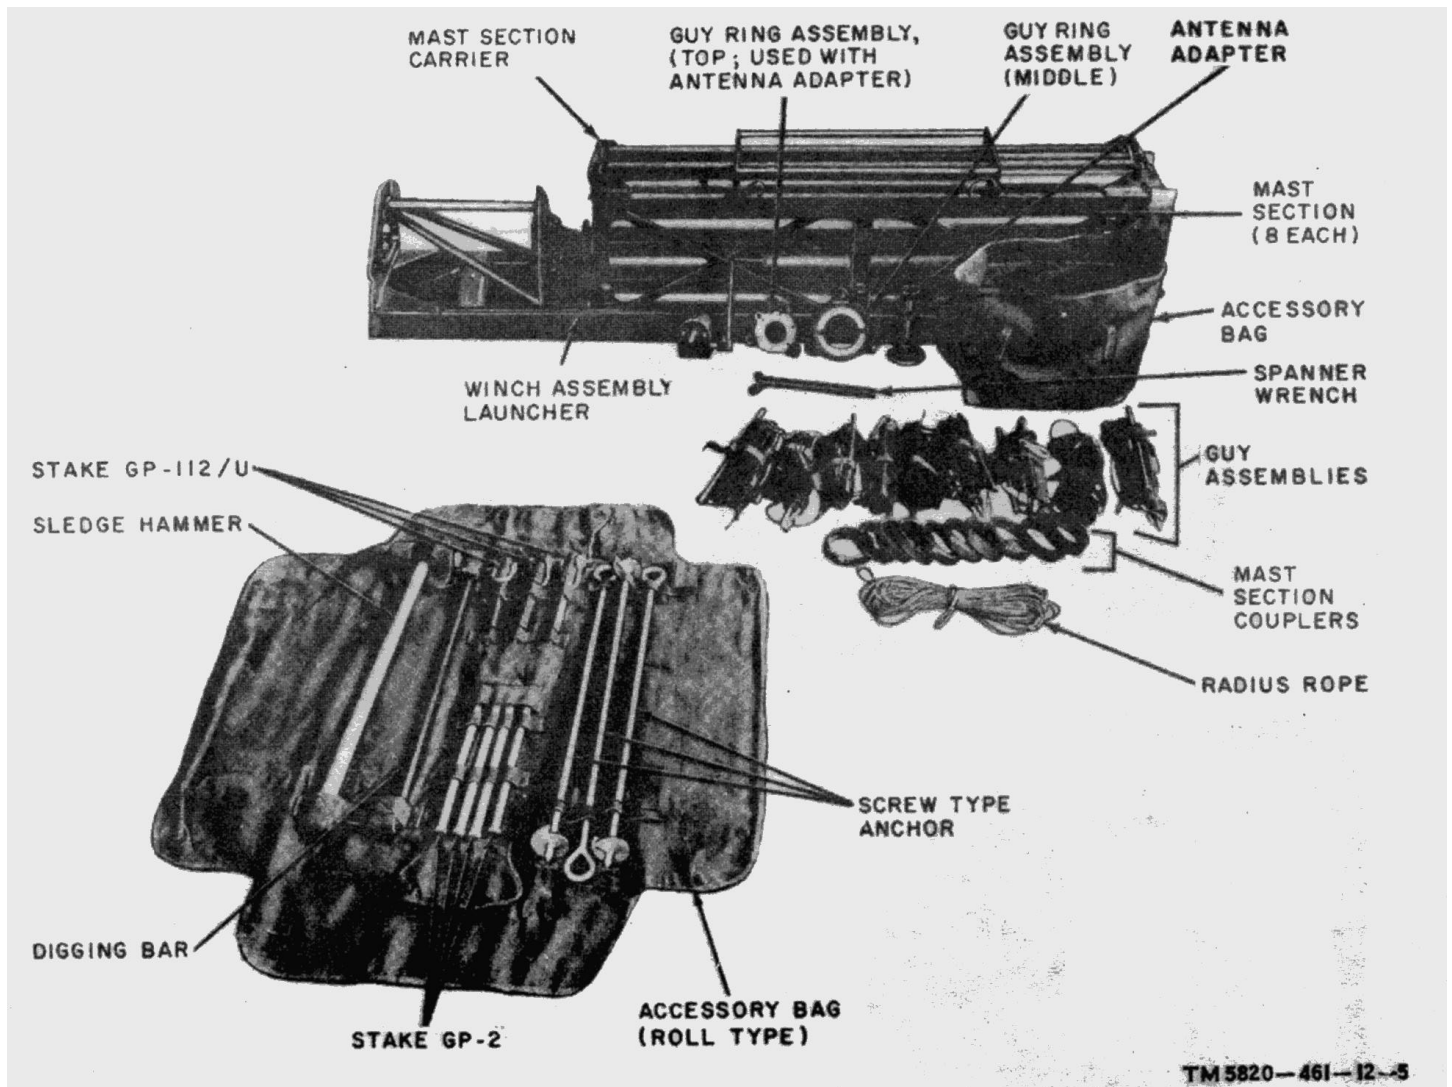

Figure 1-8. Mast AB 577/GRC and minor components.
b. Mast AB-577/GRC (fig. 1-8) (TM 11-5820-538-12) consists of eight tubular sections contained in a mast section carrier and a launcher device. When assembled, the mast provides a 48-foot mounting for Antenna AT-903/G.